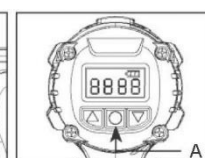

Fig. 10B
3. To keep the LED light steady, press the middle button (A). The LED will automatically turn off 15 seconds after the tool is stopped. (Fig. 10B)